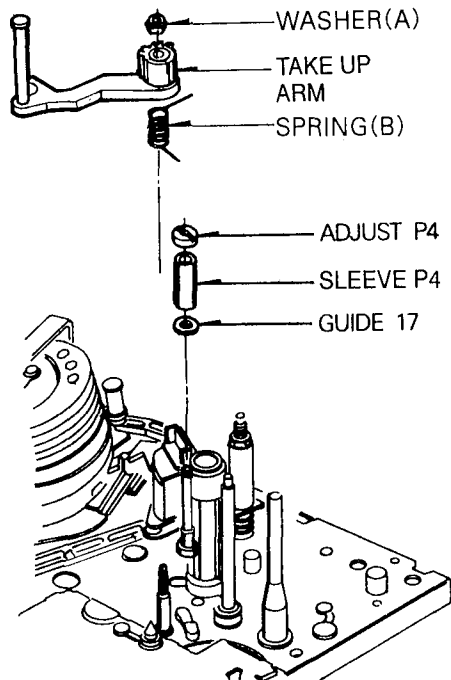

Fig. B-8 Take-Up Arm Assembly/P4
- ① When disassembling the Take-Up Lever, be careful not to break the Hook(A).
- ② When reassemble the Take-Up Lever, align the appendant Gear of Lever Take-Up with the appendant Gear of Take-up Arm
- ③ Reassemble the Take-Up Lever completely by hooking (A)
- ④ Be sure to replace together Take-Up Lever and Pinch Gear.
- ⑤ Be sure to assemble Pinch Lever Assembly before operating.
8. Take Up Arm Assembly(Fig. B-8)
9. P4 Assembly(Fig. B-8)